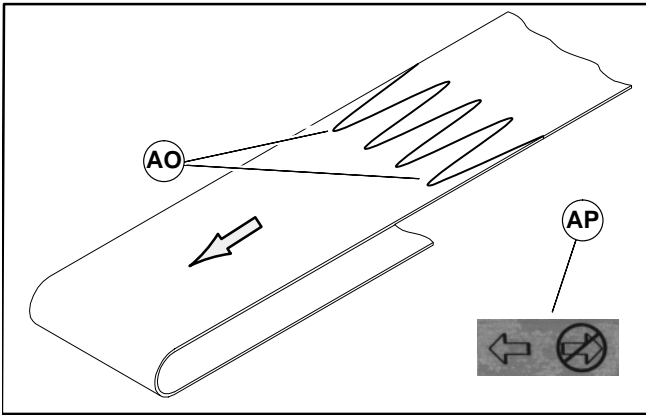

Figure 24
1. Orient belt so splice leading fingers (AO of Figure 24) point in the direction of belt travel as identified by the conveyor directional label (AP).
2. Orient belt so splice leading fingers (AO of Figure 24) point in the direction of belt travel as identified by the conveyor directional label (AP).